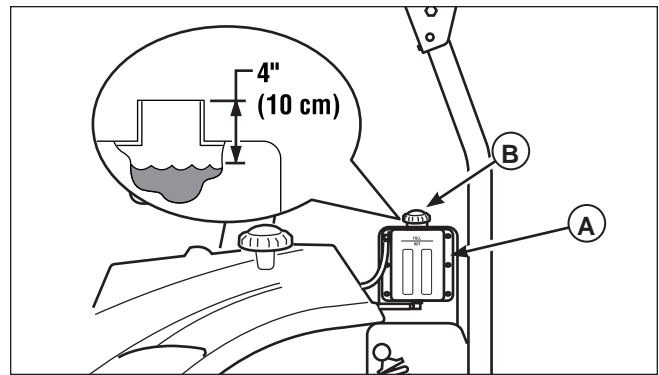

Figure 19. Checking Hydraulic Oil Level
2. Unscrew the reservoir cap (**B**, **Figure 19**).